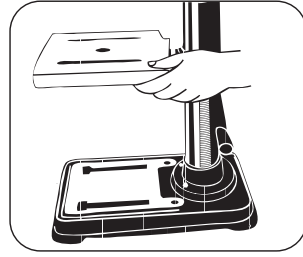

FIGURE 8.4
- Tighten the clamp by turning the Table Crank (Figure 8.4).